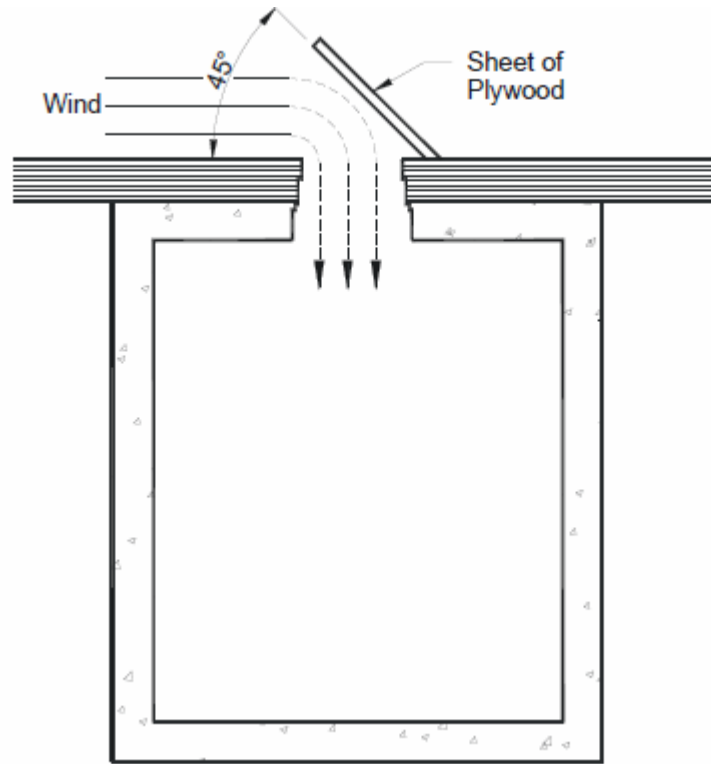

Figure 1
**6.8.2 SAIL METHOD.** The sail method (refer to Figure 1) ventilates the manhole by using the wind. A piece of plywood or some other material is placed over the manhole. The edge of the plywood facing the wind is lifted up until the plywood forms about a 45-degree angle with the